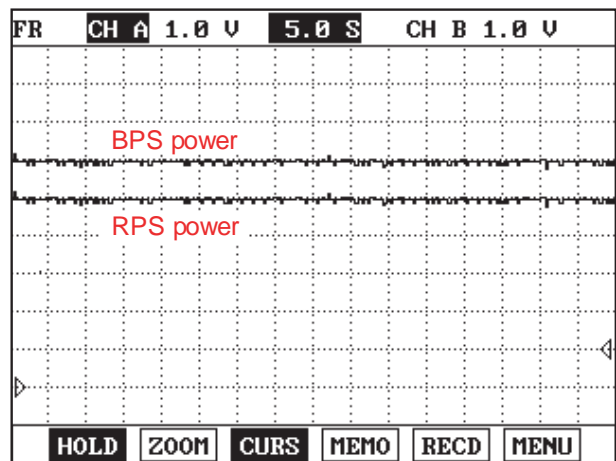

Fig.2
- Fig.2) BPS and RPS power supply signals are measured simultaneously. Check if the voltages are within the specification (4.8~5.1V) at IG KEY "ON".